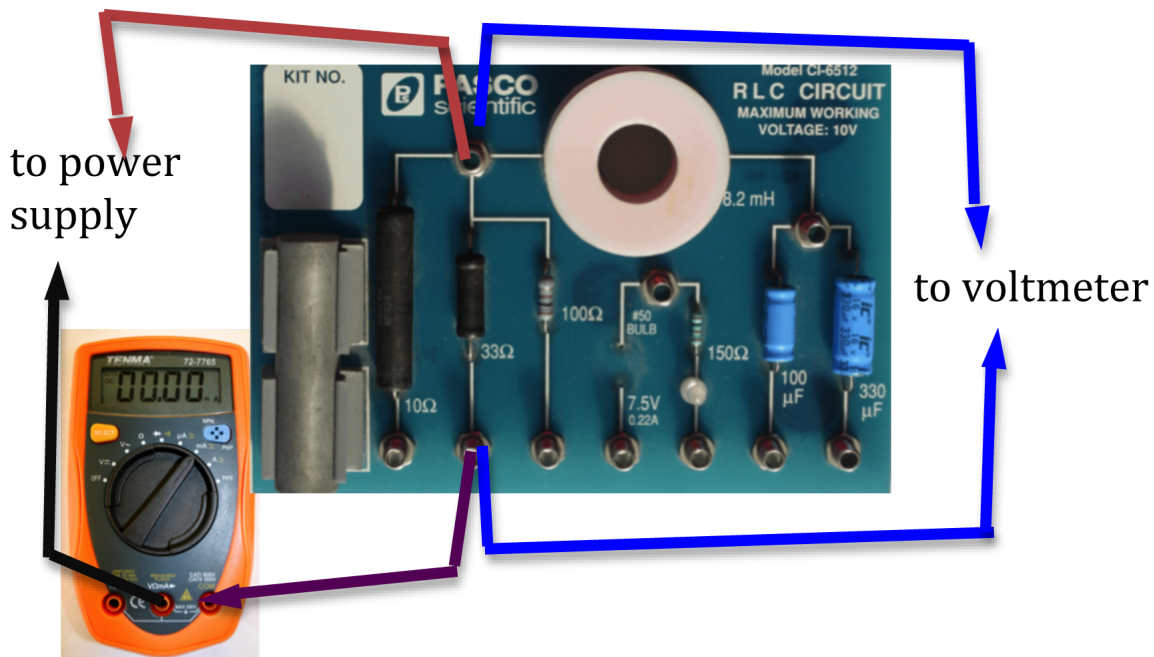

Figure 7: Circuit diagram for  $33 \Omega$  resistor
- 10 Disconnect the first resistor and connect the second resistor as shown in Fig. 7.